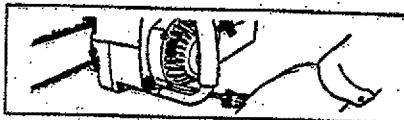

Figure 38
- Remove the three screws on the side of the fan housing. Figure 38.